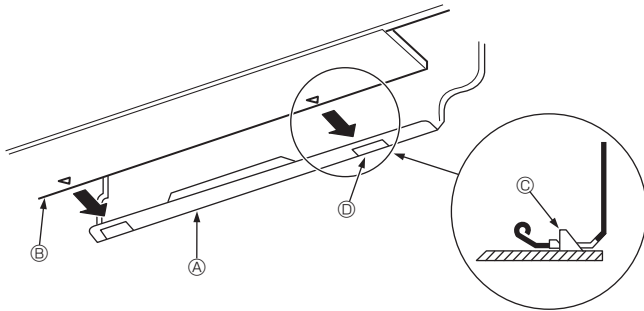

Fig. 3-15
3. While inserting the refrigerant piping and drain hose into the wall penetration hole (penetration sleeve), hang the top of the indoor unit to the mount board ①.
5. Fasten by pushing the bottom part of the indoor unit onto the mount board ①. (Fig. 3-15)
- \* Check that the knobs on the bottom of the indoor unit are securely hooked into the mount board ①.
- ① Mount board
- ② Indoor unit
- ③ Hook
- ④ Square hole